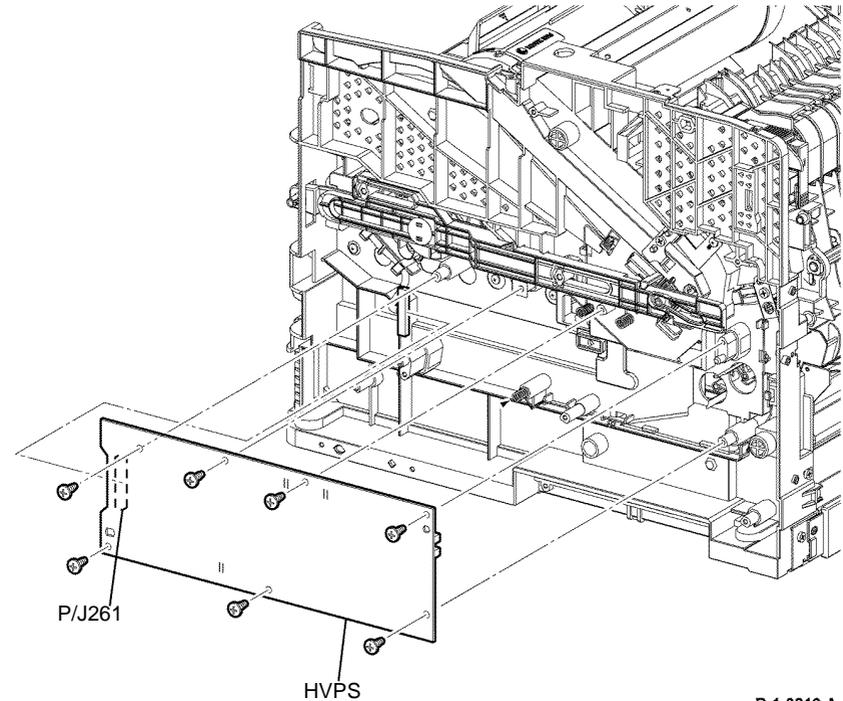

Figure 2 HVPS removal
8. Disconnect P/J261 from the HVPS. Remove seven screws (silver, tapping, 8mm) that fix the HVPS. Release two bosses on the frame from the holes on the HVPS, then remove the HVPS, Figure 2.